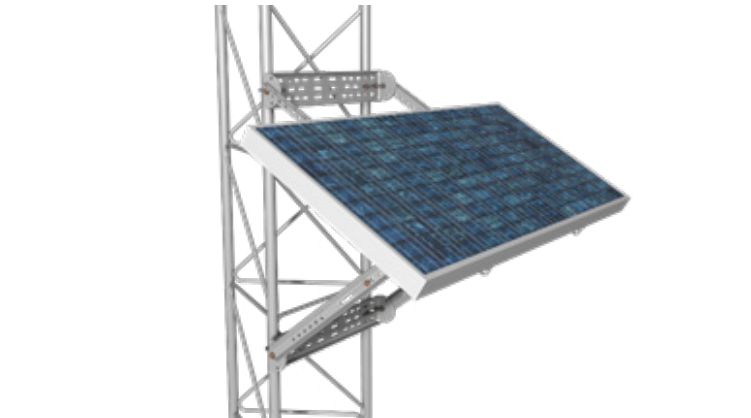

Figure 7
8. (Mounting on towers only) With the help of a second person, secure the top bracket at the desired height on the tower using U-bolts, washers, lock washers, and nuts (Figure 7). Raise the lower bracket until the angle decal on the upper bracket indicates the correct angle for the current latitude. Secure the lower bracket to the tower with U-bolts, washers, lock washers, and nuts. Fully tighten all nuts and bolts.